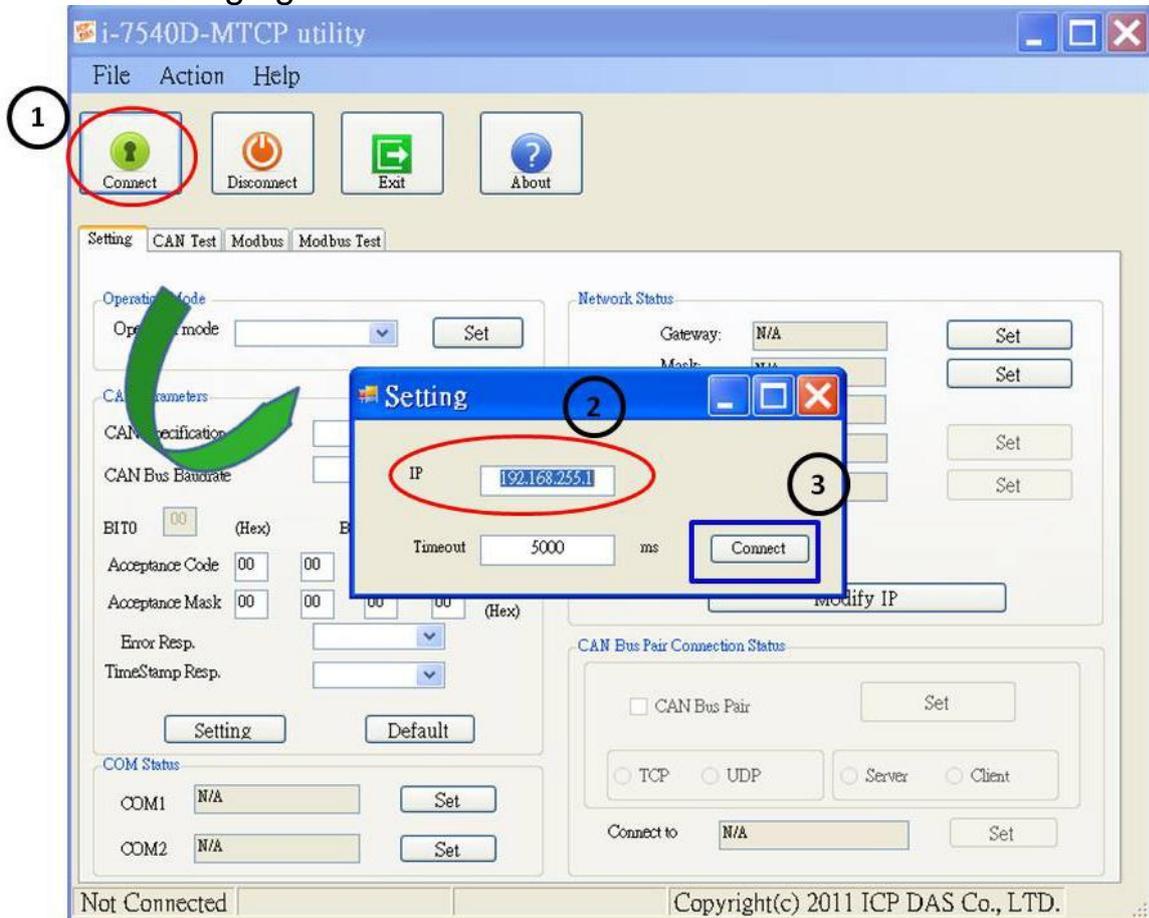

Figure 3-6: “Successful Completion of the Installation” dialog
Step 7: After finishing the installation of the I-7540D-MTCP Utility, users can find it as shown in figure 3-6.